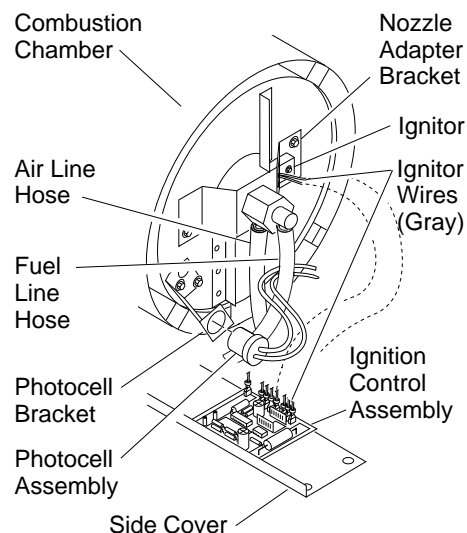

Figure 10 - Disconnecting Ignitor Wires from Ignition Control Assembly
4. Disconnect ignitor wires from ignition control assembly (see Figure 10). Pull the ignitor wires up through the hole in the lower shell.
5. Disconnect fuel line hose and air line hose. Remove photocell from photocell bracket (see Figure 10).
14. Replace photocell in photocell bracket. Route wires between hoses and back down through the hole in the lower shell with ignitor wires (see Figure 10).